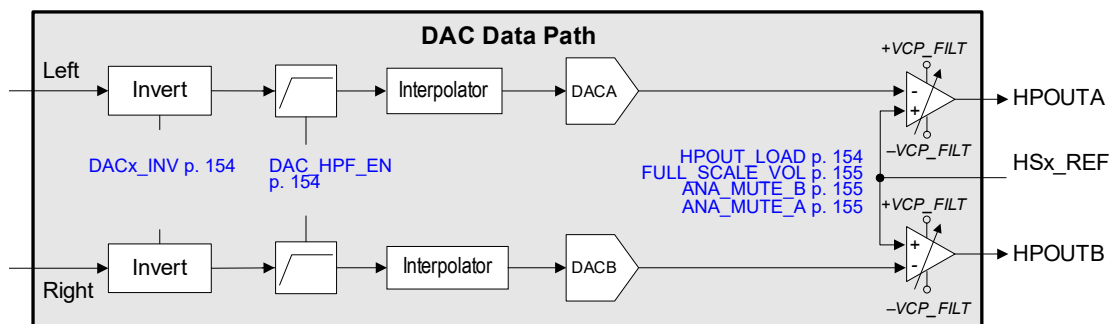

Figure 4-7. Analog-Output Signal Flow
This section describes the headphone (HP) outputs. The CS42L42 provides an analog output that is fed from the mixer. Fig. 4-7 shows the general flow of the analog outputs.